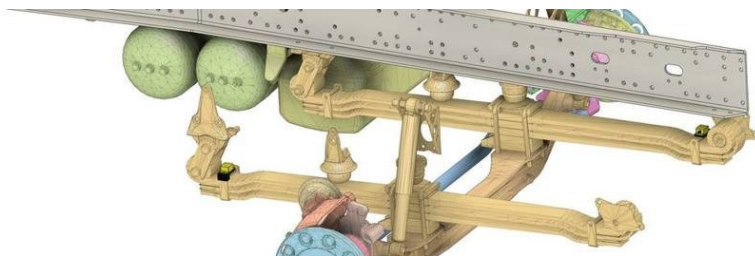

Fig. 6 – Angle sensors on the spring leaves (overview)
1. The two sensors are mounted crosswise, i.e. diagonally opposite each other on the two spring leaves (see Fig. 6).